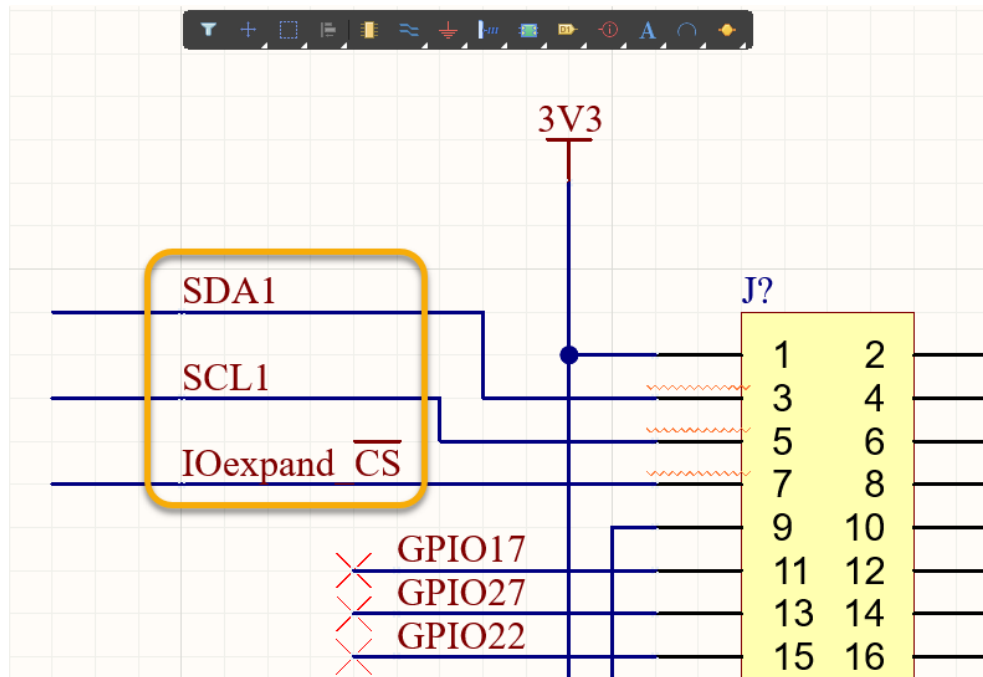

Figure 22. Net Label Placement
30. Continue to place the remaining *Net Labels* using Figure 22 as reference. Notice the numeric values will automatically increment if the *Name* is the same. The properties of a *Net Label* can always be changed by hitting the **TAB** key during placement, or by selecting the *Net Label* and changing its name manually in the *Properties* panel.